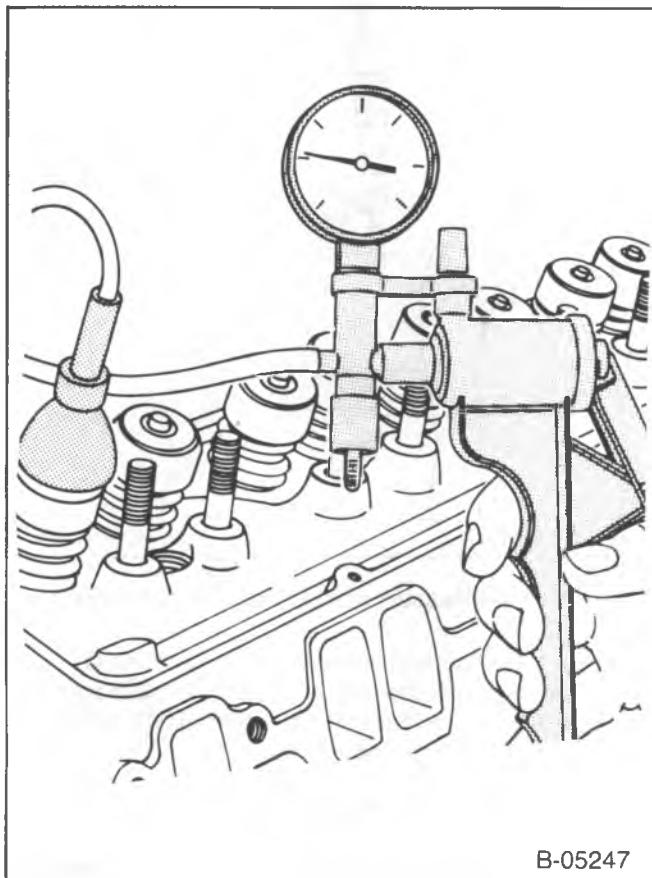

Figure 39—Checking the Valve Seals
- Check each valve stem seal, using J-23738-A (figure 39). Place the adapter cup over the shield (18). Operate the vacuum pump. Observe the vacuum pump gage. No air should be able to leak past the seal. If the O-ring seal will not hold a vacuum, it may have been damaged or improperly installed.